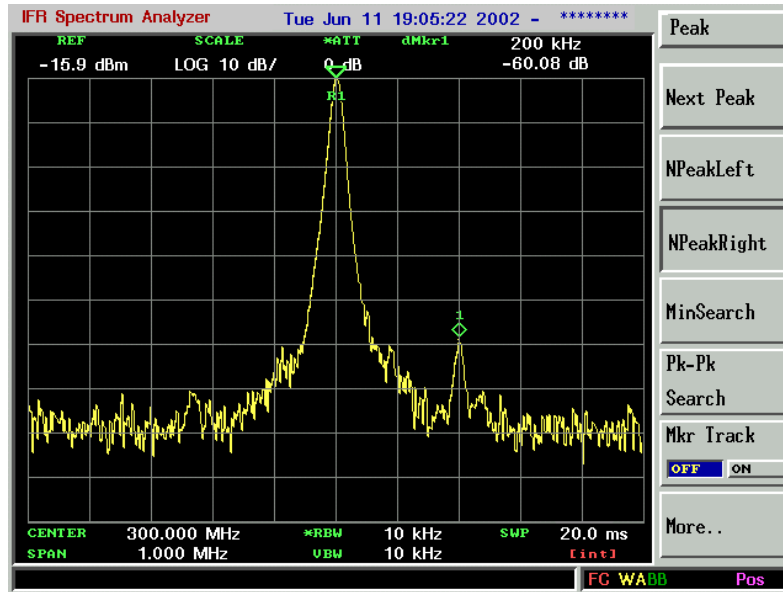

Figure 2-7. Signal Resolution with a 30 kHz Resolution Bandwidth
5. Place a marker on the smaller signal by pressing **MKR**, *Delta*, **PEAK**, *NPeakRight*. If a 30 kHz filter is used, the 60 dB bandwidth could be as wide as 450 kHz. Since then half-bandwidth (225 kHz) is wider than the frequency separation(200 kHz), the signals most likely will not be resolved. See Figure 2-7. (In this example, we used the 60 dB bandwidth value. To determine resolution capability for intermediate values of amplitude level differences, assume the filter skirts between the 3 dB and 60 dB points are approximately straight.)